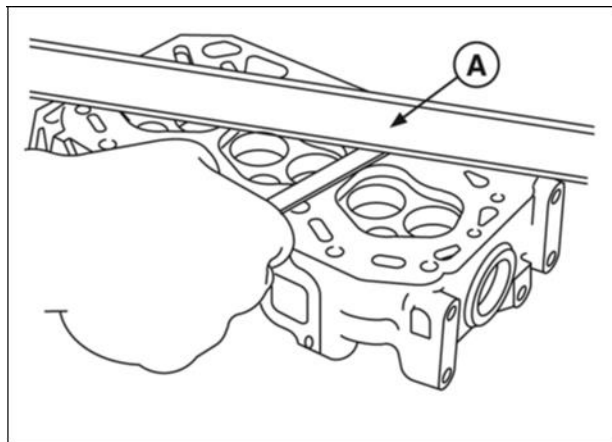

Figure 12
2. Use a straight edge (A, Figure 12) to check cylinder head lower surface for distortion.